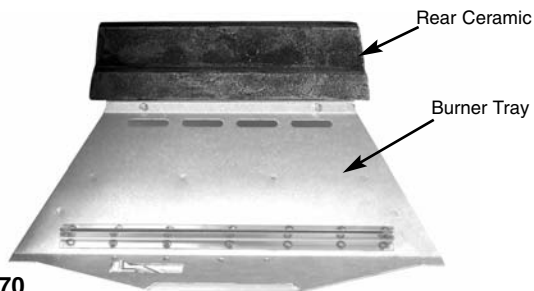

Fig. 70
1. Place the rear ceramic on the rear ceramic retainer ledge in a central position, ensuring the step portion is facing the front (Fig. 70).